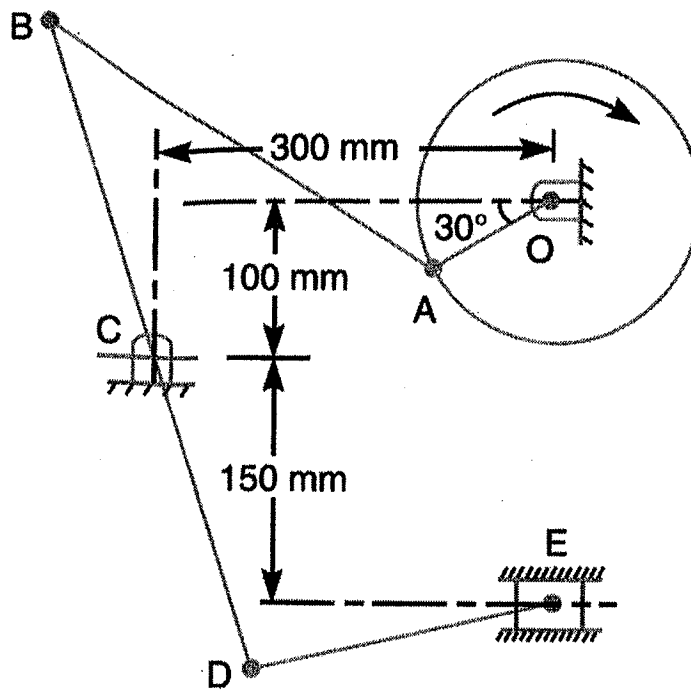

Figure Q3
3. In the mechanism shown in Figure Q3, the crank OA is 100 mm long and rotates in a clockwise direction at a speed of 100 rpm.